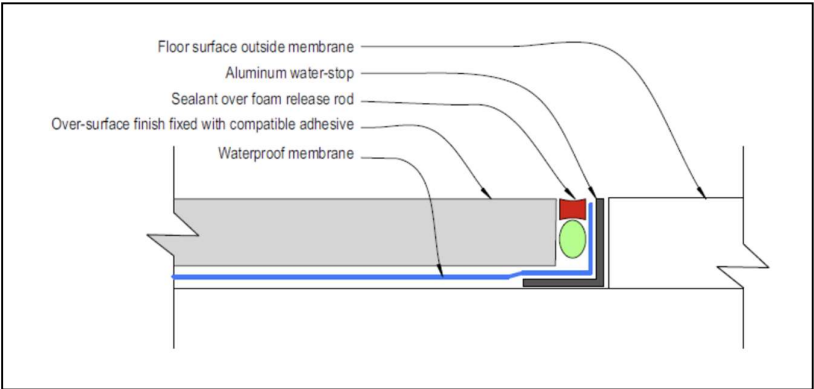

Figure 14: Water-stop at termination of waterproof membrane system
- ✓ Figure 14: Water-stop at termination of waterproof membrane system